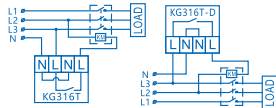
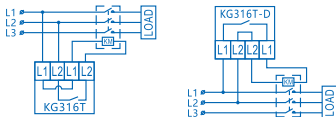

Figure 6 AC220V three-phase control wiring diagram (contactor coil 380V)
Figure 9 AC380V three-phase control wiring diagram (contactor coil 380V)
b) The coil voltage of controlled contactor is AC380V 50Hz/60Hz. Wiring diagram is shown in Figure 6, Figure 9.